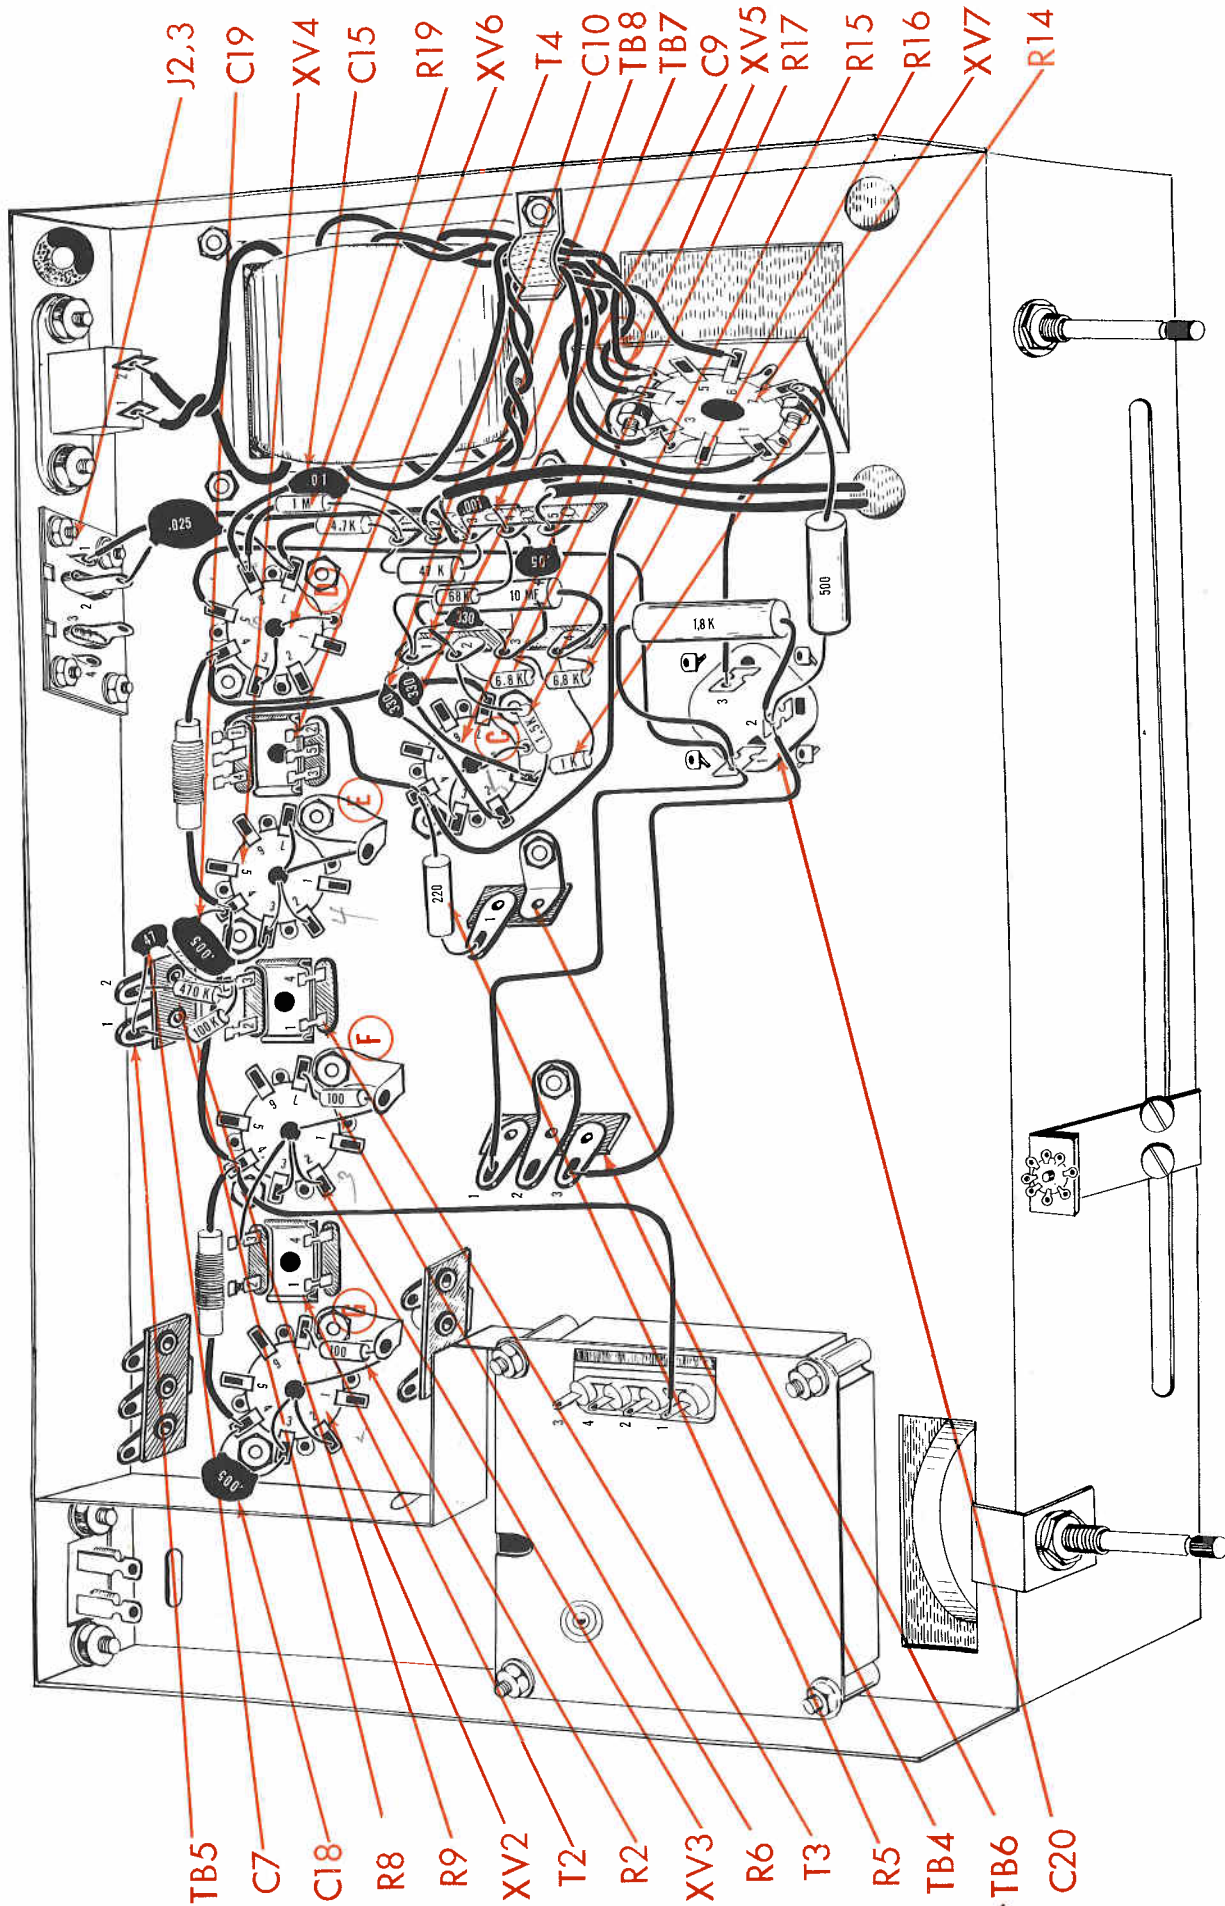

Fig. 4
1. (✓) Fig. 4. Cut both leads on a 1M Ω (brown, black, green, silver) resistor, R19, and both leads on a .01mfd (10K) disc capacitor, C15, to 1". Cover one end of the resistor and one end of the capacitor with a 1/2" piece of spaghetti on each. Connect this end of the resistor and capacitor to XV6-6 (S). Connect the other end of the resistor to TB7-1 (S) and the other end of the capacitor to TB7-2 (S).
2. (✓) Fig. 4. Connect a 3/4" piece of bare wire from center post (C) on XV5 to ground lug "C" (S) on XV5.
3. (✓) Fig. 4. Connect a 1/2" piece of bare wire from center post (S) on XV5 to XV5-3 (S).
4. (✓) Fig. 4. Connect a 3/4" piece of bare wire from center post (C) on XV6 to ground lug "D" (S) on XV6.
5. (✓) Fig. 4. Connect a 1/2" piece of bare wire from center post (S) on XV6 to XV6-3 (S).
6. (✓) Fig. 4. Connect a 1" piece of bare wire from center post (C) on XV4 to ground lug "E" (C).
7. (✓) Fig. 4. Connect a 1/2" piece of bare wire from center post (C) on XV4 to XV4-7 (S).
8. (✓) Fig. 4. Connect a 1/2" piece of bare wire from center post (C) on XV4 to XV4-3 (C).
9. (✓) Fig. 4. Connect a 1/2" piece of bare wire from center post (S) on XV4 to XV4-2 (S).
10. (✓) Fig. 4. Connect a 1" piece of bare wire from center post (C) on XV3 to ground lug "F" (C).
11. (✓) Fig. 4. Connect a 1/2" piece of bare wire from center post (C) on XV3 to XV3-3 (S).
12. (✓) Fig. 4. Connect a 1/2" piece of bare wire from center post (C) on XV3 to XV3-2 (S).
13. (✓) Fig. 4. Connect a 1" piece of bare wire from center post (C) on XV2 to ground lug "G" (C).
14. (✓) Fig. 4. Connect a 1/2" piece of bare wire from center post (C) on XV2 to XV2-3 (C).
15. (✓) Fig. 4. Connect a 1/2" piece of bare wire from center post (S) on XV2 to XV2-2 (S).
16. (✓) Fig. 4. Connect a 220 Ω (red, red, brown, gold) 1W, resistor, R5, from XV5-4 (S) to TB6-1 (C). Cut both leads to 1/2".
17. (✓) Fig. 4. Connect a 5000 mmf (.005 or 5K) disc capacitor, C19, from XV4-4 (S) to XV4-3 (S). Cut both leads to 1/2".
18. (✓) Fig. 4. Connect a 5000 mmf (.005 or 5K) disc capacitor, C18, from XV2-4 (S) to XV2-3 (S). Cut both leads to 1/2".
19. (✓) Fig. 4. Connect a 1" piece of bare wire from center post (S) on XV3 to IF can, T2-3 (S).
20. (✓) Fig. 4. Connect a 5 1/2" piece of red wire from C20-2 (S) to TB4-3 (C).
21. (✓) Fig. 4. Connect a 6" piece of red wire from C20-1 (S) to TB4-1 (C).
22. (✓) Fig. 4. Connect a 6.8K Ω (blue, grey, red, silver) resistor, R16, from TB8-4 (C) to TB8-3 (C). Cut both leads to 1/2".
23. (✓) Fig. 4. Connect a 6.8K Ω (blue, grey, red, silver) resistor, R17, from TB8-2 (C) to TB8-3 (C). Cut both leads to 1/2".
24. (✓) Fig. 4. Connect a 1K Ω (brown, black, red, silver) resistor, R14, from XV5-1 (C) to TB8-4 (S). Cut both leads to 1/2".
25. (✓) Fig. 4. Connect a 2" piece of white wire from XV5-7 (S) to ratio detector can, T4-1 (S).
26. (✓) Fig. 4. Connect a 330 mmf, disc capacitor, C9, from TB8-1 (C) to XV5-1 (S). Cut both leads to 3/4" and use 1/2" of spaghetti over the lead connected to XV5.
27. (✓) Fig. 4. Connect a 330 mmf, disc capacitor, C10, from TB8-1 (C) to XV5-2 (C). Cut both leads to 3/4" and use 1/2" of spaghetti over the lead connected to XV5.
28. (✓) Fig. 4. Connect a 1.5K Ω (brown, green, red, silver) resistor, R15, from XV5-2 (S) to TB8-2 (C). Cut both leads to 3/4".
29. (✓) Fig. 4. Connect a 4" piece of black wire from J2, 3-1 (C) to TB7-3 (S).